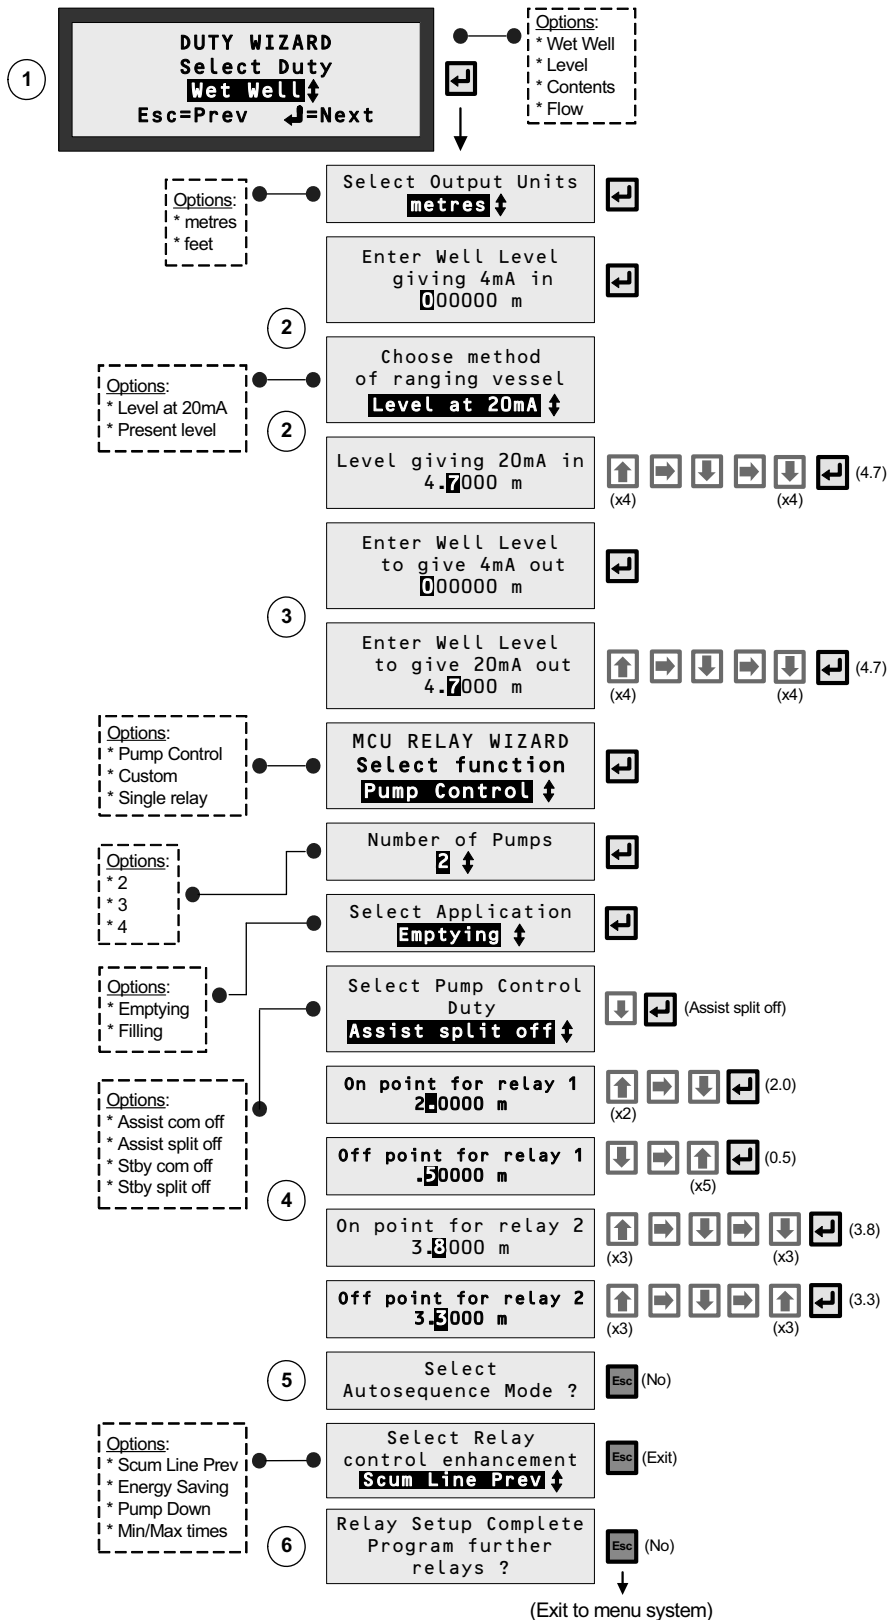

Figure 46: Application/Duty: Wet well control using a 4-20mA Level Transmitter
4. Work through the “Duty” Wizard prompts (Figure 46 or Figure 47) until completion; this occurs when the menu system re-appears. Keypad hints, for the illustrated Wizard sequence on the next page, are provided alongside the prompts. If applicable, adapt the example to suit your application.
- ① Select “Wet Well” from the multiple-choice list.
- ② Set-up the 4-20mA input span with a level range (e.g. 0 to 4.7 metres)
- ③ Set-up the 4-20mA output span with a level range (e.g. 0 to 4.7 metres)
- ④ Set-up of On and Off points for Relay 1 (Pump 1) and Relay 2 (Pump 2).
- ⑤ Options for switching lead pump according to specified criteria (e.g. number of times used).
- ⑥ Option to set-up further relays.